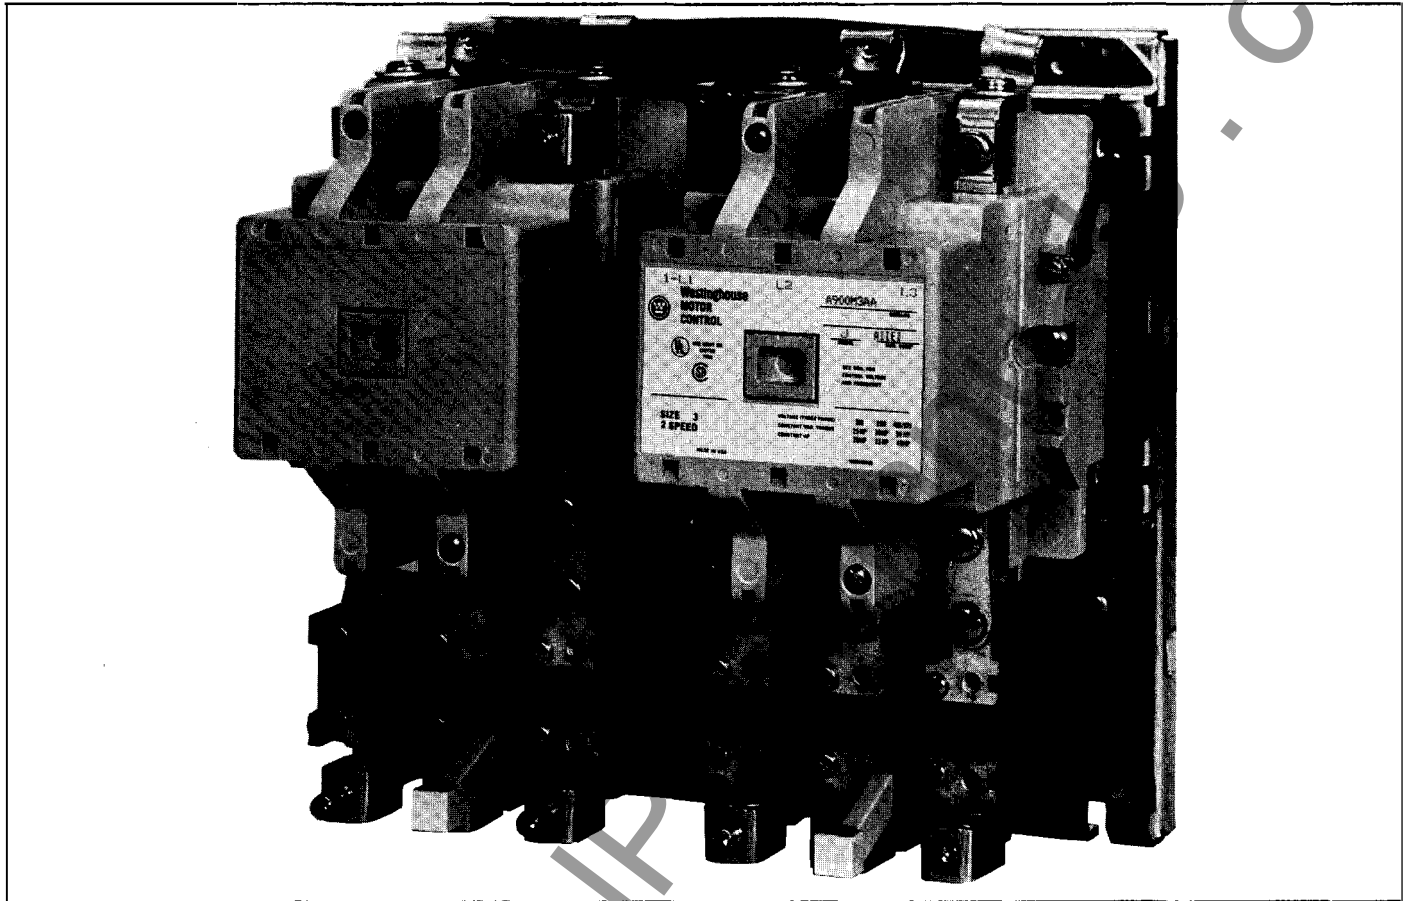

Fig. 1 Size 3 Two-Speed Controllers
**TYPE B OVERLOAD RELAY (See Figure 1)**